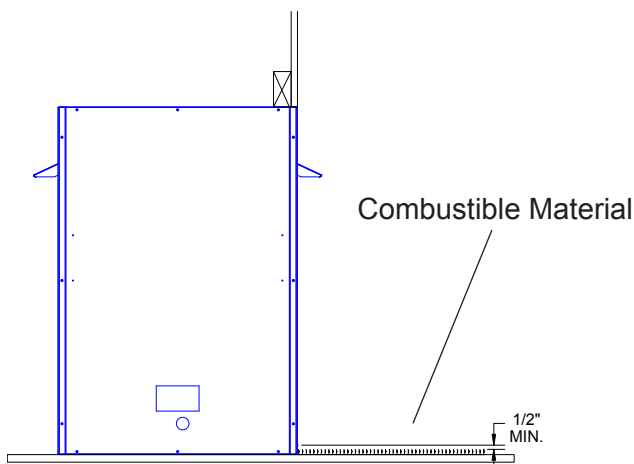
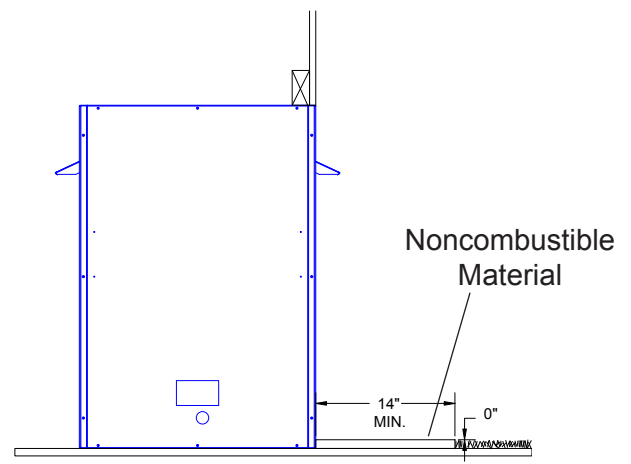

Figure 7 - Floor Clearance above Combustible Flooring Material
Figure 8 - Floor Clearance above Noncombustible Flooring Material
6. **Floor clearance** — This firebox hearth opening (inter-chamber floor) must be installed at least $\frac{1}{2}$ " above any combustible flooring material **Figure 7** or, the firebox hearth may be installed flush with the floor if non-combustible material such as slate or marble is installed between the base of the firebox and the combustible flooring. The firebox may be installed directly on a combustible floor or raised on a platform of an appropriate height. Do not place firebox on carpeting, vinyl, or other soft floor coverings. It may, however, be placed on a flat wood, plywood, particle board, or other hard surfaces. Be sure firebox rests on a solid continuous floor or platform with appropriate framing for support so that no cold air can enter room from under the firebox. **Refer to Figure 8.**